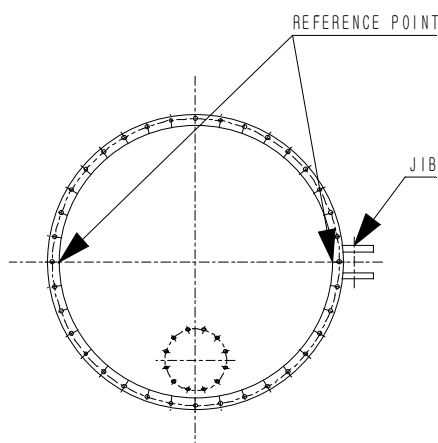

Fig. 1 Reference points of crane bottom plate
Two(2) reference points to be machined/marked on the front and rear side of crane bottom plate, see fig.1, and to be used in future measuring.